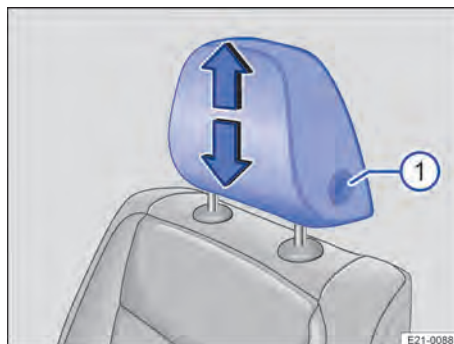

Fig. 75 First row of seats: Adjusting the head restraint
1. Push the head restraint up or down while pressing and holding the button → Fig. 75 ⓘ.